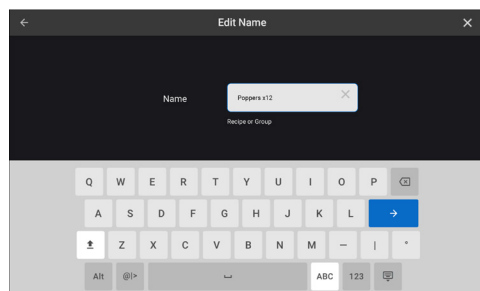

Figure 27: New Recipe Name
- Input the recipe name and touch the blue arrow button to continue (Figure 27, below).